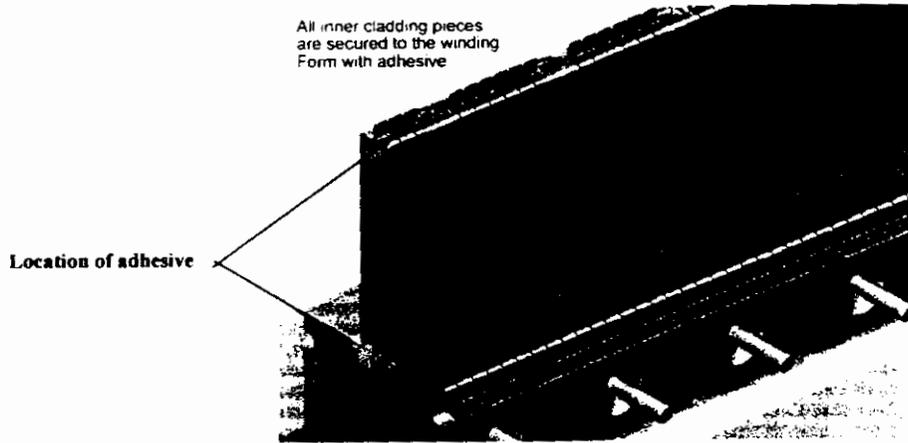

Figure 11- Inner Copper Cladding
- 6.15.2 Fitup each section of copper cladding to the inner wall using the cladding mapping drawings. Customizing of each section of copper cladding will be required. (Figure 11- Inner Copper Cladding)